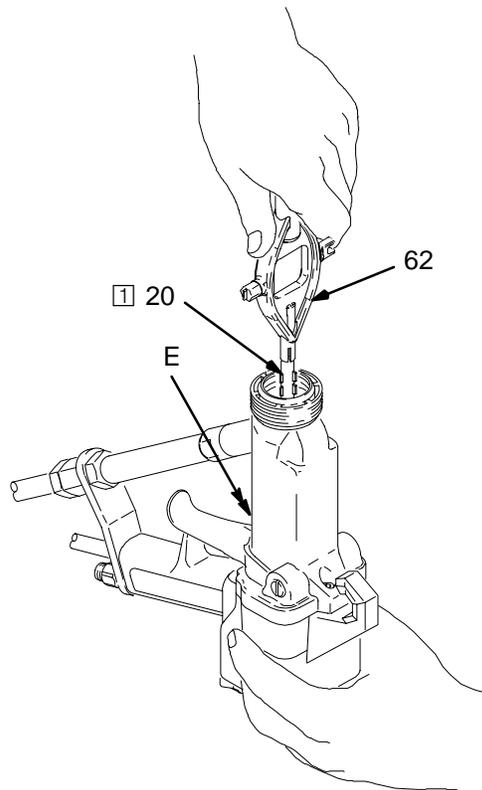

Fig. 18
- Make sure the electrode (20) is tightened properly, as shown in Fig. 18, page 32.
3. Unscrew and remove the electrode needle (20) with the multi-tool (62). See Fig. 18. Be careful not to damage the contact wire. If the fluid rod turns, hold the back end of the fluid rod (E) by placing a screw driver blade into the slot on the shaft, near the trigger.